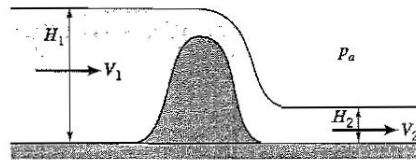

Figure P10.13
10.13 Water in a two-dimensional channel flows over a bump, as shown in Figure P10.13. If $H_2/H_1 = 1/4$, find the Froude numbers at entry and exit, F_1 and F_2 .